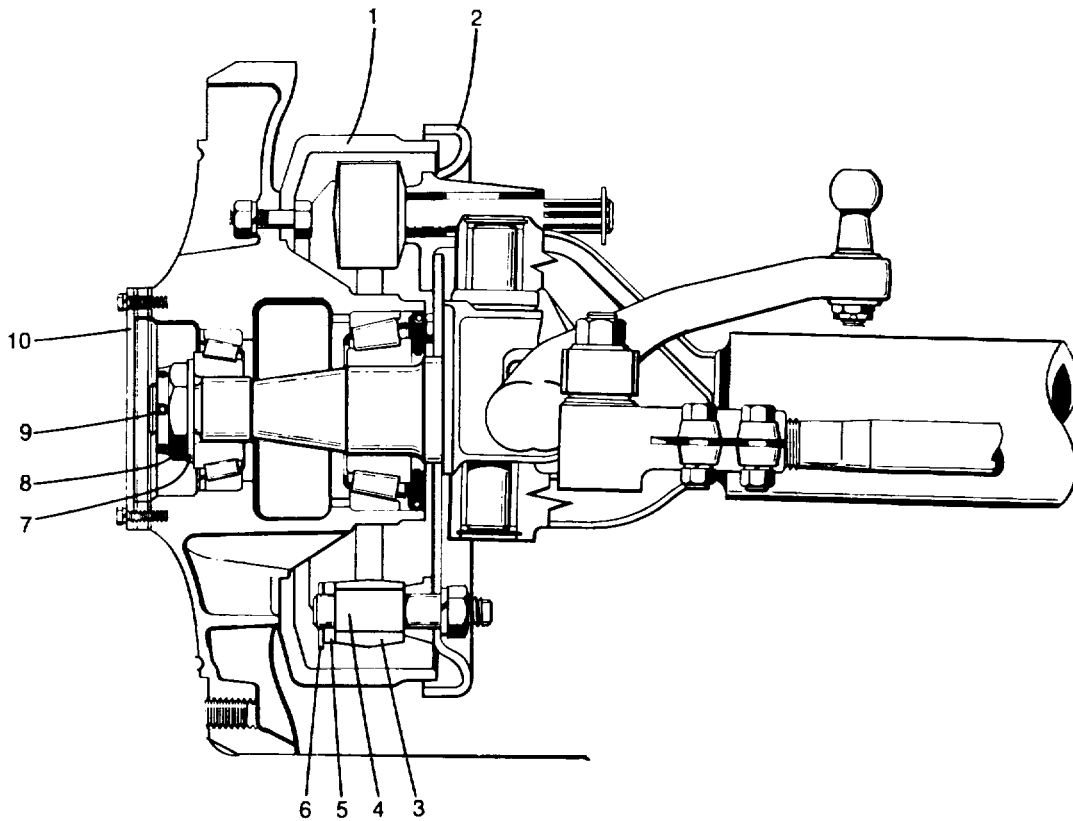

Fig. 2
- (b) Adjust slack adjuster (3) until toe of shoes (7) contacts brake drum and prevents wheel from turning.
- (c) Release the slack adjuster (3) just enough to free the wheel.
- (d) Expand each anchor pin (6) in the same manner, releasing each of them just enough to allow the wheel to turn freely.
4.3 Front Brake Removal (Fig. 2)